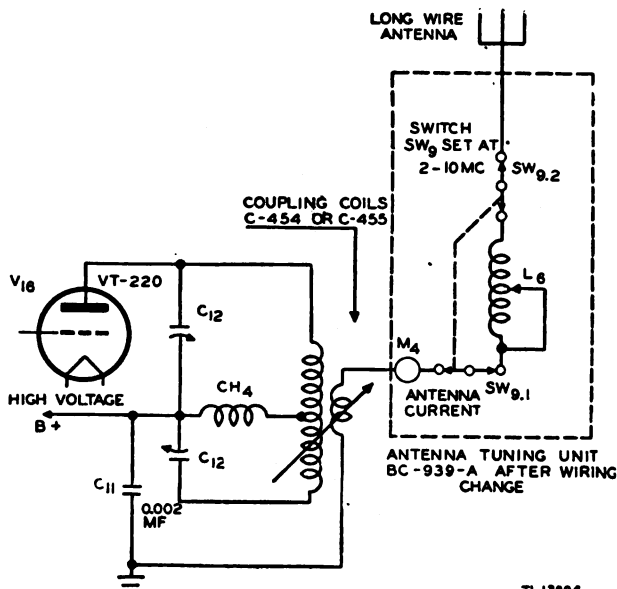

Figure 43. P-a plate circuit and Antenna Tuning Unit BC-939-A—schematic diagram.
(1) A means must be provided for tuning the oscillator, buffer-doubler, and i-p-a stages over the range of 2.0 to 1.0 mc.
(2) The p-a tank circuit must be provided with increased inductance and capacitance to tune over the required frequency range.
(3) The antenna must operate efficiently on frequencies from 1.0 to 2.0 mc, and a means must be provided for coupling the antenna to p-a tank circuit.
(4) The function of the electrical components of Frequency Conversion Kit MC-509, which make possible the extended frequency range of Radio Transmitter BC-610-E, is discussed in *b*, *c*, and *d* below.
d. ANTENNA SYSTEM. To secure efficient operation of the transmitter on frequencies from 1.0 to 2.0 mc, a long wire antenna is used. The antenna operates as a grounded quarter-wave antenna. For frequencies from 1.0 to 1.5 mc the physical length of the antenna is 125 feet, and for frequencies from 1.5 to 2.0 mc the physical length is 75 feet. Electrically, these antennas are much shorter than a quarter-wavelength; therefore, tuning the antenna to resonance at the operating frequency requires the use of a variable series inductance. By making a slight wiring change in Antenna Tuning Unit BC-939-A, coil L_6 is connected in series with the antenna and the variable coupling link of the p-a tank coil. Figure 43 is a schematic diagram of the p-a plate circuit and Antenna Tuning Unit BC-939-A, after the tuning unit wiring has been changed. The antenna, being shorter than a quarter-wavelength, represents a highly capacitive load to the transmitter. However, the antenna can be tuned to resonance at the operating frequency by the proper adjustment of coil L_6 . When the antenna is tuned to resonance, maximum r-f current is indicated by ANTENNA CURRENT meter M_4 and the an-